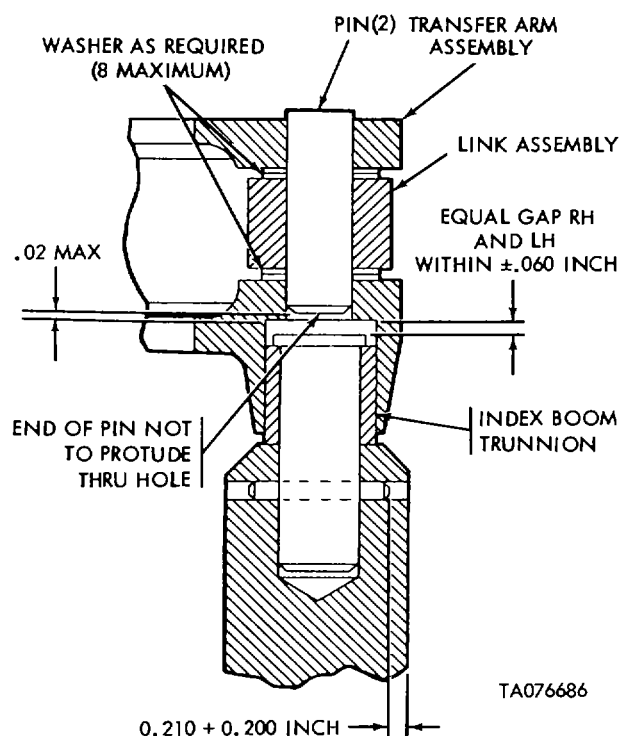

Figure 2-5. Index Boom and Link Assembly Clearance
Install shimming washers as required (6 maximum) to position extension cylinder rod end in center of transfer arm torque box. With extension cylinder fully retracted, and without missiles loaded and full roll applied, a minimum clearance of 0.250 inch must be maintained between extension cylinder end cap and transfer arm torque box. If pins (1) are new replacement parts, they must be installed as shown in figure 2-5. After installation drill a $0.187 + 0.005$ inch diameter hole through pins, using holes in transfer arms as pilot holes.
- (5) Connect electrical cabling (8) to electrical connectors on transfer arm and index boom.
- (6) Check clearance between end of index boom trunnion and transfer arm assembly on both sides. They should be equal within ± 0.060 inch. Refer to figure 2-5.
- (1) Install electrical cabling (if applicable). Refer to TM 9-1450-500-20.
- (2) Lift link assembly to alignment with index boom forks.
- (3) Install two hex-head bolts, shimming washers (as required to maintain equal gap ± 0.060 inch on both sides between front end of transfer arm and index boom trunnion) and two locknuts. Refer to figures 2-5 and 2-6.
- (4) Install transfer arm assembly (para 2-17).
- (5) Install yoke assembly (para. 2-14).
- (6) Connect all electrical cabling.